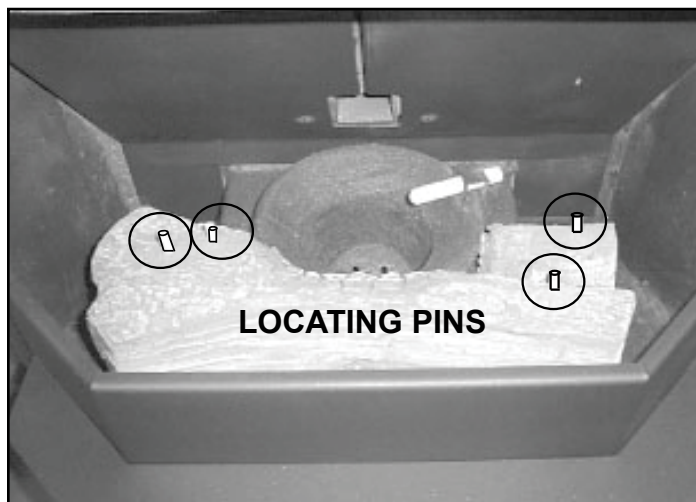

Figure 23.1
1. Place the front log in first as shown in **Figure 23.1**. Place log between fire pot and face of appliance with charred area surrounding fire pot.